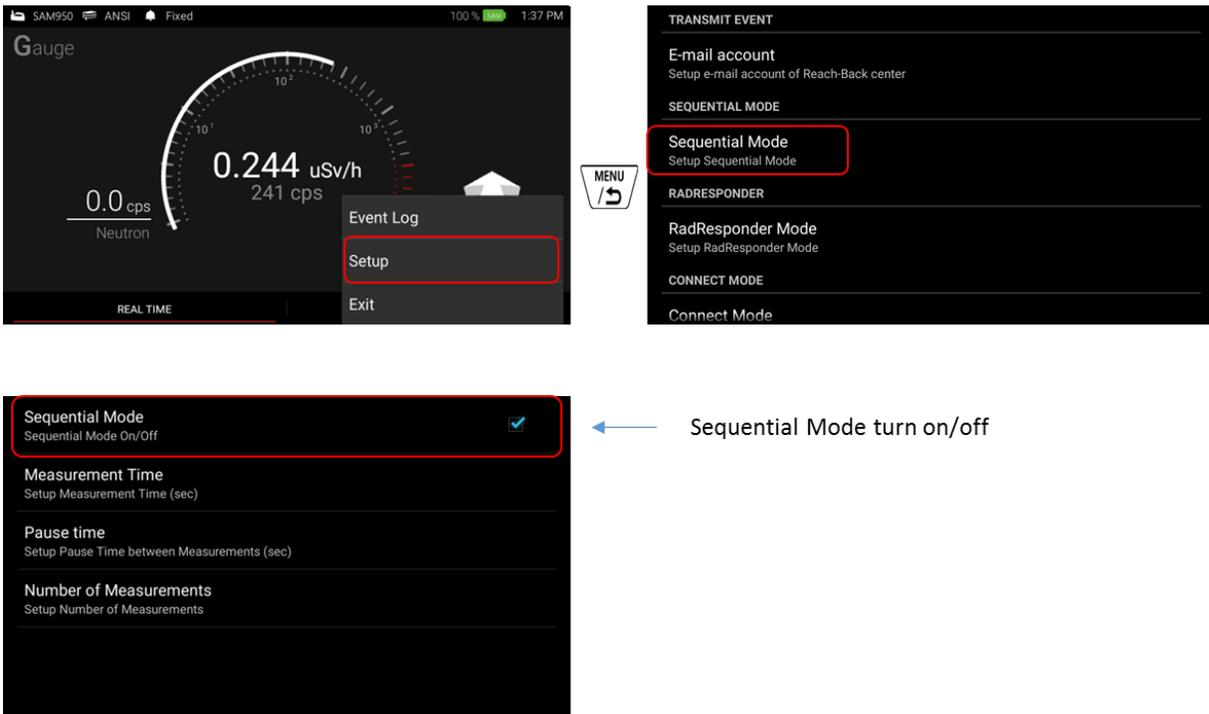

Figure 4.22. Optional Sequential Mode setup example
3. Sequential Mode is optional feature. It can be On/Off by check/uncheck the box as shown in figure 4.22.